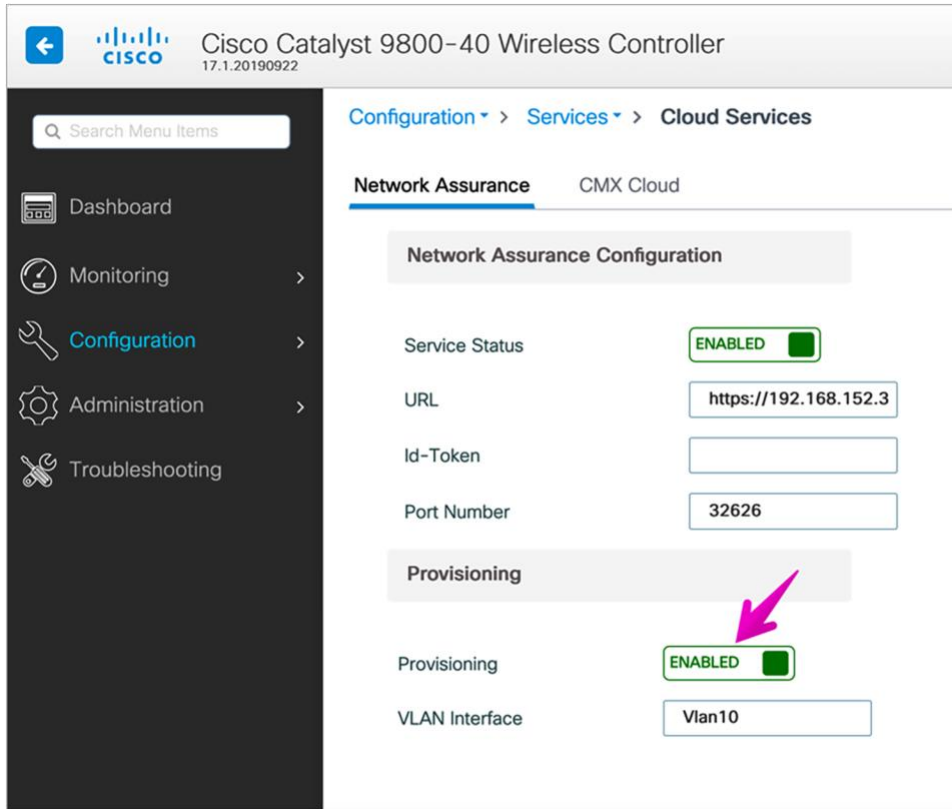

Figure 16.
- c. For Cisco Catalyst® 9800 Series devices, the CiscoSensorProvisioning SSID is enabled from Configuration > Services > Cloud Services > Network Assurance > Provisioning: ENABLED (**Figure 16.**).